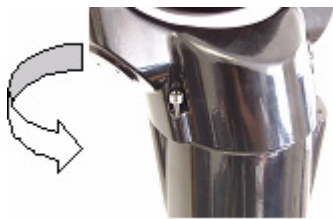

Figure 5.3 Canting in progress
3. Grasp the lower camera body beneath the pan body joint and then carefully twist the upper camera body clockwise, as shown in *Figure 5.3* below, until the camera body has rotated 180° around. The top part of the camera will now be at a 45° angle (canted).